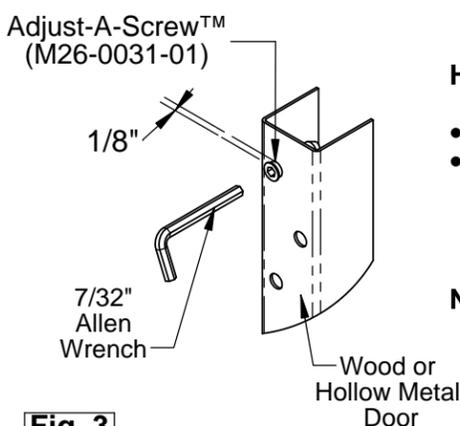

Fig. 3
- Insert Adjust-A-Screws into every hole. Place a 7/32" Allen wrench in the opening of the Adjust-A-Screw and turn the Adjust-A-Screw into the hole while keeping the screw properly aligned. Drive all the Adjust-A-Screws in until approximately 1/8" from edge of door (Fig. 3). (Adjust-A-Screw will self tap)
- Insert Adjust-A-Screws into every hole. Place a 7/32" Allen wrench in the opening of the Adjust-A-Screw and turn the Adjust-A-Screw into the hole while keeping the screw properly aligned. Drive all the Adjust-A-Screws in until approximately 1/8" from edge of door (Fig. 3).